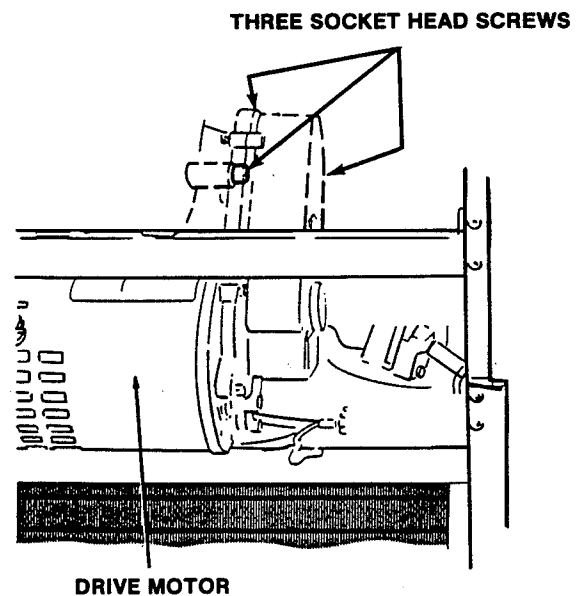

Figure 69. Drive Motor and Gear Box
2. Install the three socket head screws into the drive motor gear box and tighten securely (Fig. 69).